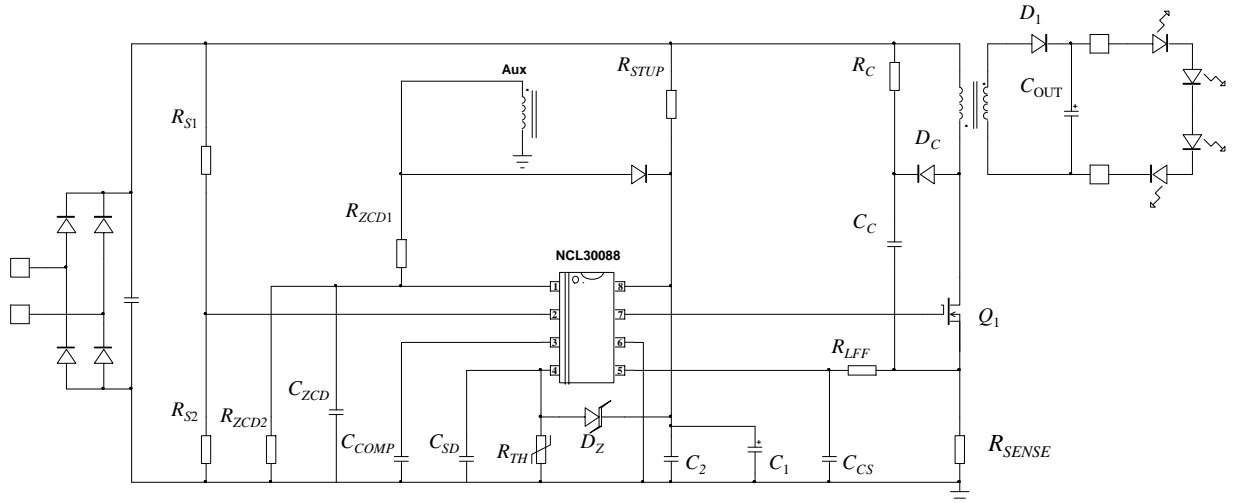
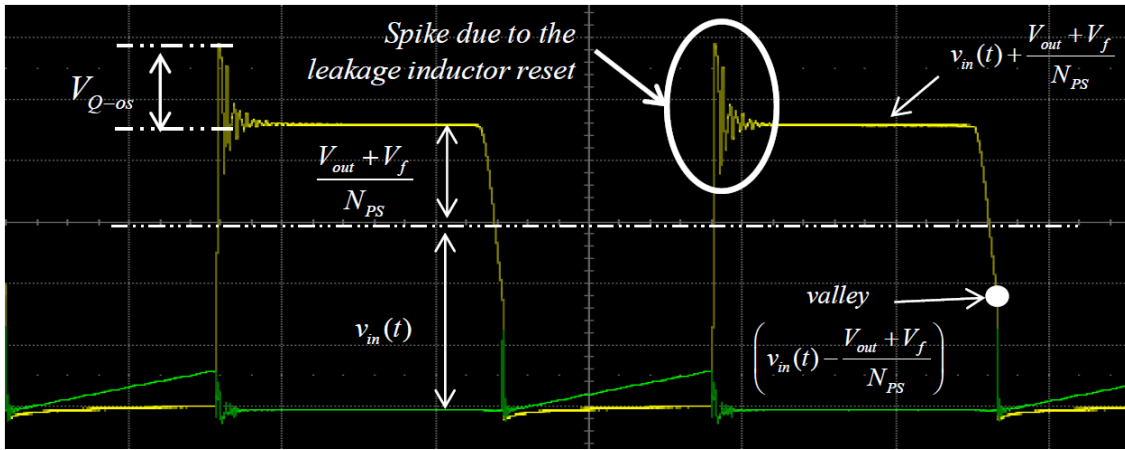

Figure 2. Basic Schematic
Figure 3. MOSFET Drain-source Voltage (Yellow Trace) and Current (Blue)
In general, N_{PS} , the secondary to primary transformer turns ratio ($N_{PS} = n_S / n_P$ [n_P designates the primary number of turns, n_S , the secondary number of turns]) is selected as low as possible so that the input current stress is reduced. N_{PS} cannot be too small however. N_{PS} sets the amount of voltage reflected during the off-time (see Figure 3) and hence, must be high enough to limit the voltage stress across the primary-side MOSFET. Indeed, the voltage to be sustained by the primary-side MOSFET and the output diode are:
- V_{Q-ov} is the MOSFET overvoltage shown in Figure 3. This overshoot is due to the leakage inductor reset. It is limited by the clamping network consisting of D_C , C_C and R_C of Figure 2.
a circuit requires a diode, a resistor and a capacitor (D_C , R_C and C_C of Figure 2):